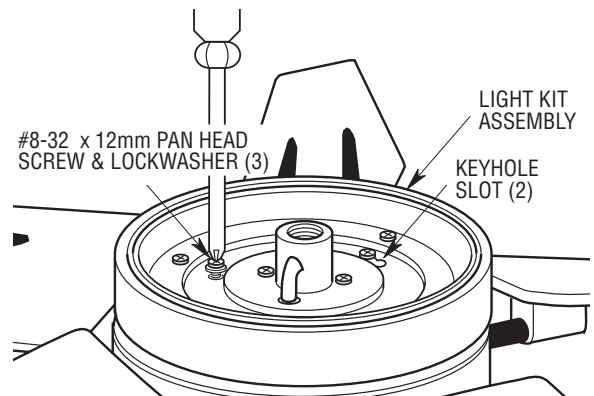

Figure 8
- 14. Place the three #8-32 x 12mm pan head screws and lockwashers (supplied) to secure the light kit assembly to the switch housing (Figure 8).